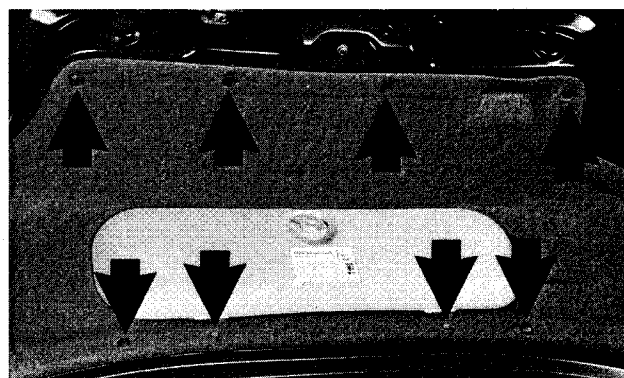

Fig. 16. Trunk lid trim and tool kit retaining screws and clips (arrows).
1. Raise trunk lid. Remove tool kit and trunk lid trim panel. See Fig. 16.